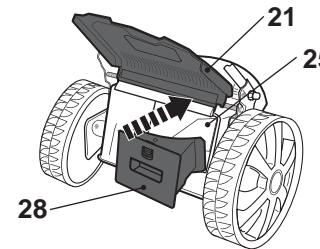

Fig. 27
- Open the rear deflector guard (21), hold it in position and insert the mulching insert (28) into the rear discharge chute (25) (Fig. 27).
- Open the side deflector guard (16), hold it in position and align the hooks on the side discharge attachment (29) with the rods to hang it onto (Figs. 27, 28).